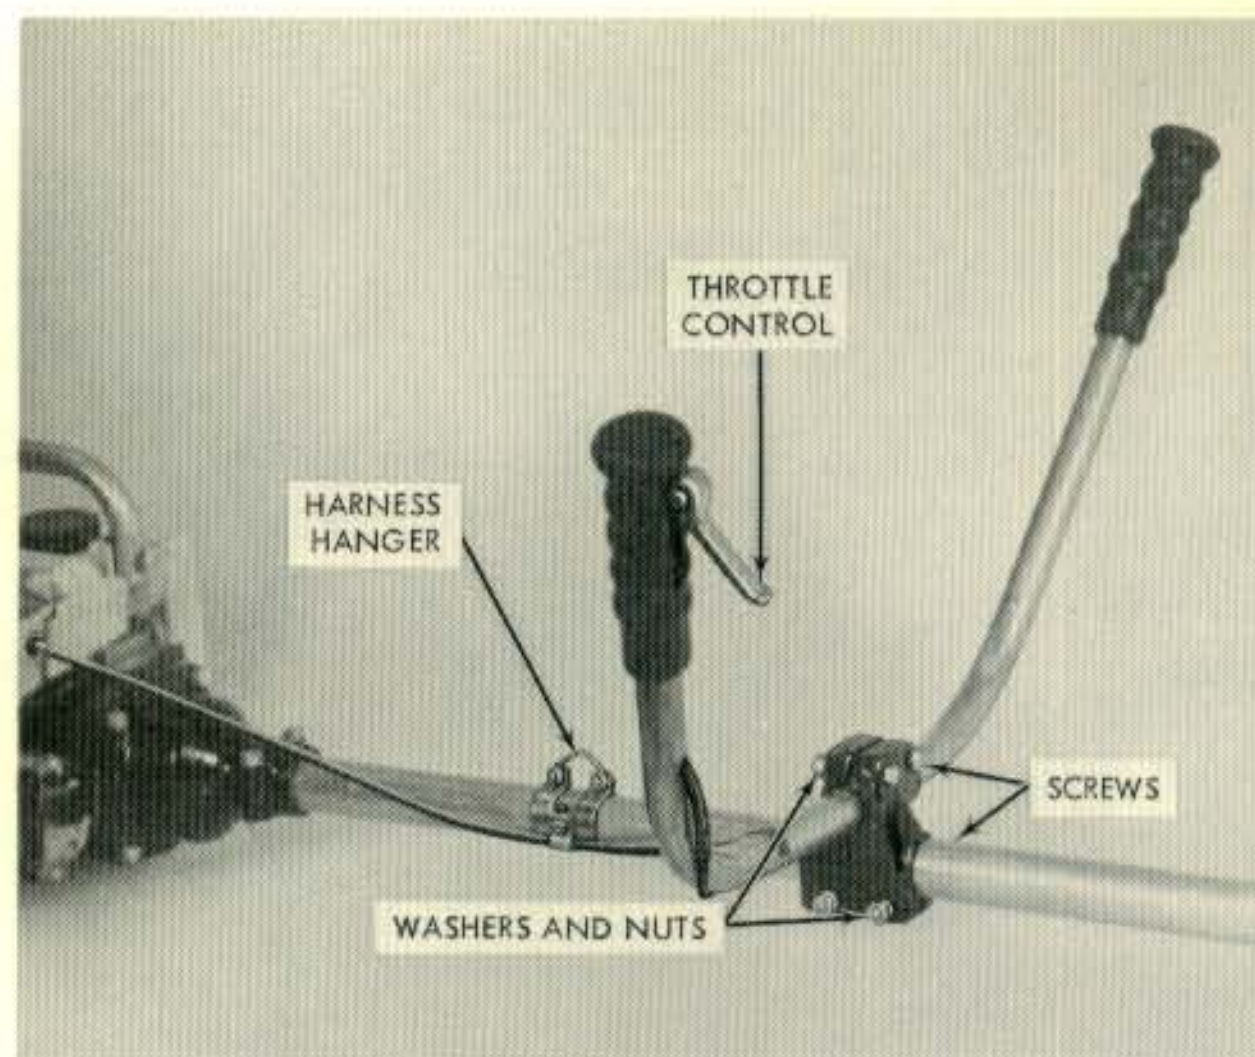

Figure 9. Handle Bar Installation
7. Assemble the handle bar on the drive shaft housing as shown in Figure 9 with four 1/4-20 x 1-3/4-inch screws (P/N 102125), eight 1/4-inch plain washers (P/N 100004), and four 1/4-20 inch nuts (P/N 101143). The handle bar must be positioned for the best balance of the Drive Unit. Note that the throttle control is on the right hand upright and that the bar is mounted off-center to the left.